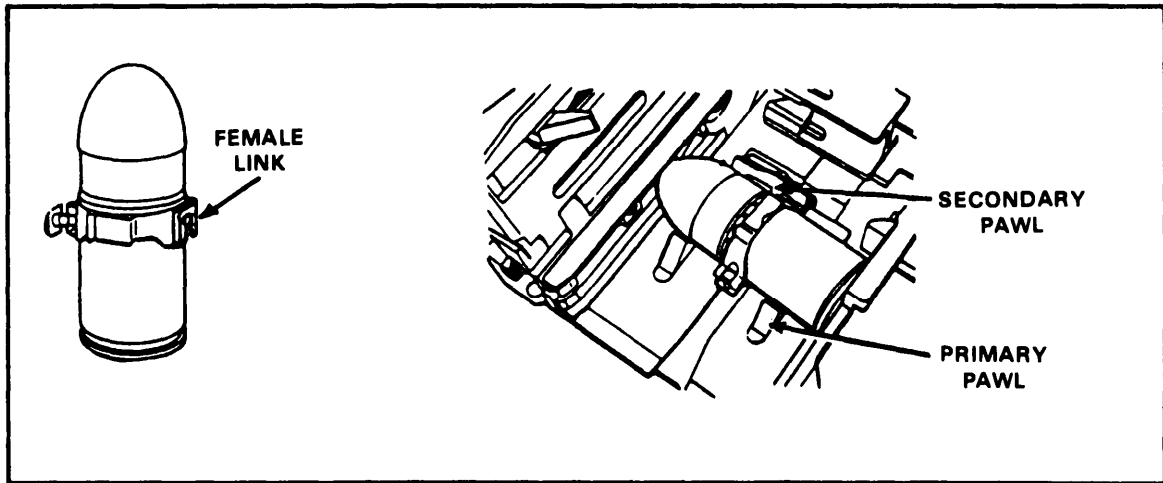

Figure 2-22. Loading of first round.
(1) Insert the first round into the feeder (female link first) (Figure 2-22).